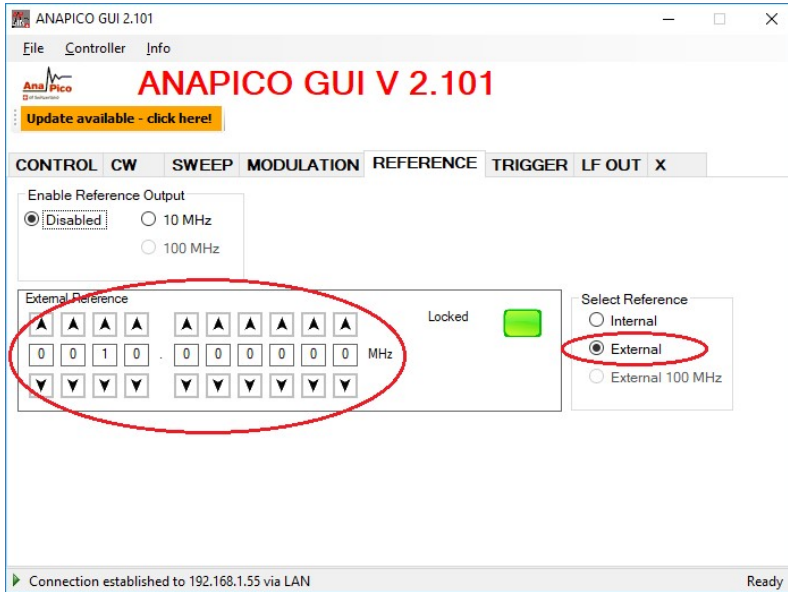
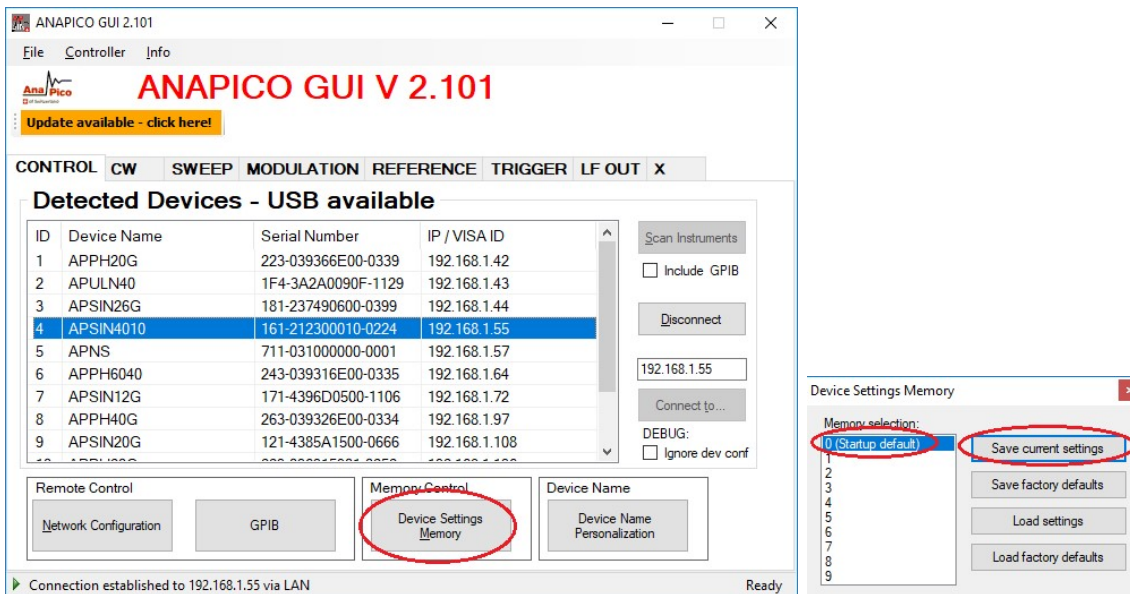

Figure 4: Reference setup
Figure 5: Store reference configuration as power up default
- It is recommended that all external sources are locked to the reference of the VectorStar™ system. Use the Anapico GUI to configure the generator for 10 MHz external reference as shown in figure 4. This configuration can be stored as the power up default. See figure 5.